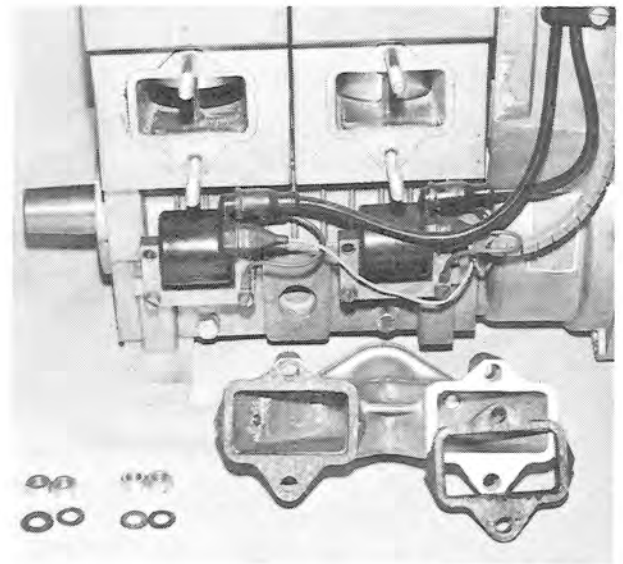

FIG. 1-14
Remove the four (4) intake manifold nuts and washers. Remove manifold assembly and insulators. See Fig. 1-14.